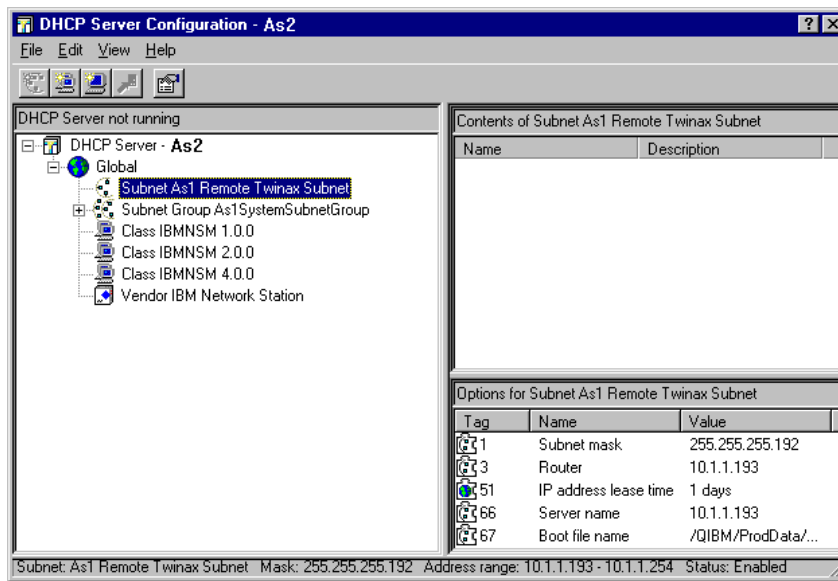

Figure 99. Operations Navigator - DHCP Configuration Display Showing Subnet Groups
9. Click **OK**. The resulting display is shown in Figure 99 on page 190.